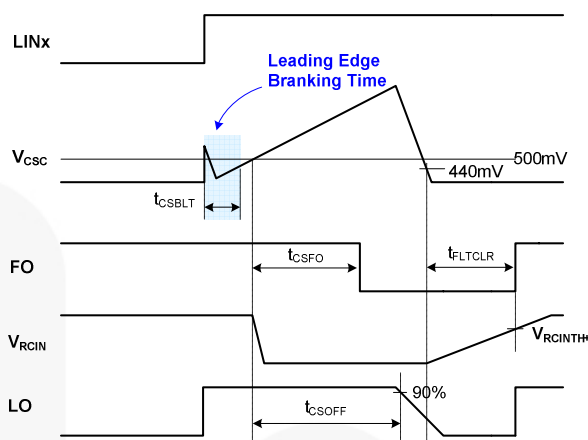

Figure 42.R_{CIN} and Fault-Clear Waveform Definition
Figure 42 shows the waveform definitions of RCIN, $\overline{\text{FO}}$ and the low-side driver, which uses a soft turn-off method when an under-voltage condition of the low-side gate driver supply voltage (V_{DD}) or the current-sense pin (CS) recognizes a fault. Once a fault condition occurs, the $\overline{\text{FO}}$ pin is internally pulled to COM and all outputs (HO1,2,3 and LO1,2,3) of the gate driver are turned off. Low-side outputs decline linearly by the internal sink current source ($I_{\text{SOFT}}=40\text{mA}$) for soft turn-off, as shown in Figure 42.